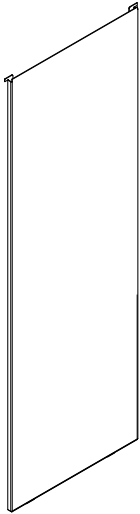
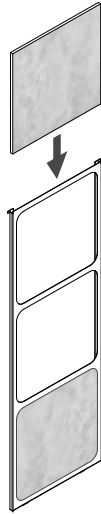

Figure 24.1
Figure 24.2
Your appliance ships with two different side options, one is a solid side panel (**Figure 24.1**) and tile side panel (**Figure 24.2**). There are two of each and no left or right side, these can be changed at anytime.
- Stack non-combustible material tiles in tile frame as shown in **Figure 24.2**.